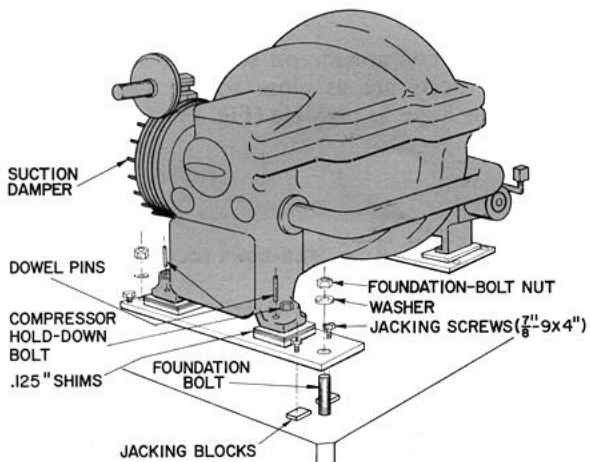

Fig. 2 – Setting Compressor
- Figure 2 — Setting Compressor
The compressor with soleplates attached now forms a single piece of equipment which must be set in the exact position shown on the job blueprints. See Fig. 2. Align all other machine components to the fixed compressor after it has been installed. Final compressor alignment requirements are:
1. Level compressor with jacking screws provided. Place 2 x 4 x 1/2-in. steel jacking blocks under the screws (Fig. 2) to distribute the compressor weight.
Before moving cooler into alignment with compressor, be sure that the suction damper (Fig. 2) has been installed on the compressor and that the suction damper blade moves freely.